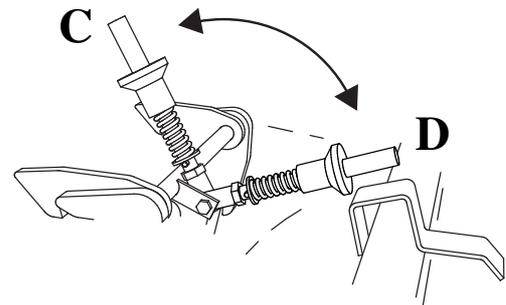

Figure 1.15
- 4 Fold up the stay for the transport lock's opening device, so that the lock does not open when the machine is lowered; see “Figure 1.15” position (C).
- 5 Lower the compaction roller to the ground. Reset the transport lock by folding back the stay for the transport lock's opening device; see “Figure 1.15” position (D).